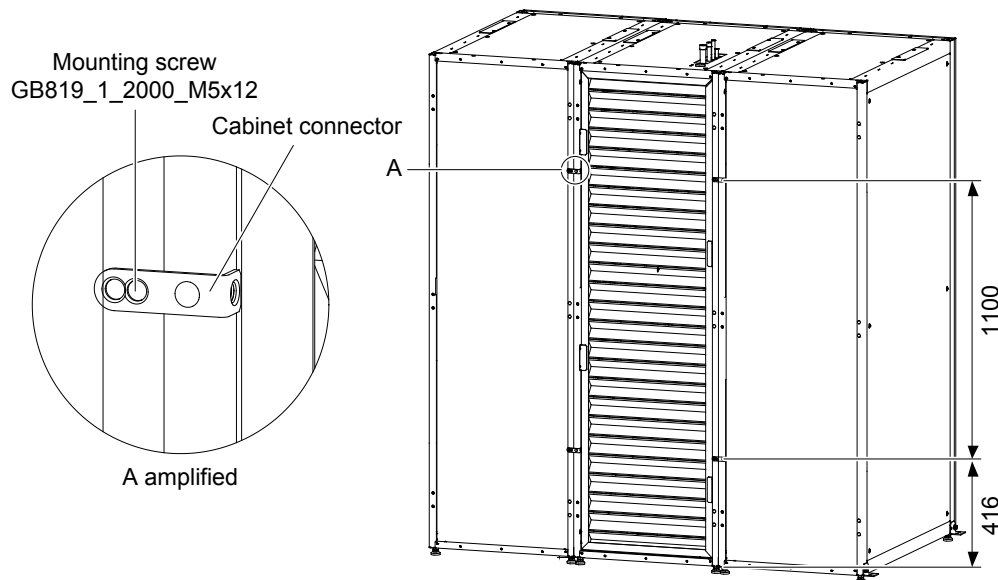

Figure 2-16 Schematic diagram for connecting the cabinet
- Use the M5 countersunk head screws to fix the cabinet connector (L-shaped) in the installation holes of the cabinet frame (side of the hinge) and rack frame adjacent to the cabinet as depicted in Figure 2-16.